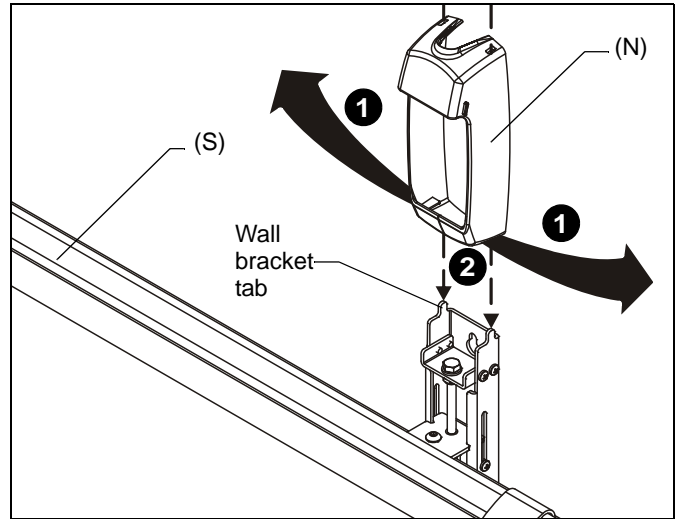

Figure 18
1. Open the lower flaps of the wall bracket cover (N) outward. (See Figure 18)
2. Slide the cover downward, hooking the top of the wall bracket covers (N) onto the tabs on top of wall assembly brackets. (See Figure 18)
3. Slide the lower flaps of the wall bracket cover (N) under the bottom of the wall assembly brackets (S). (See Figure 18)